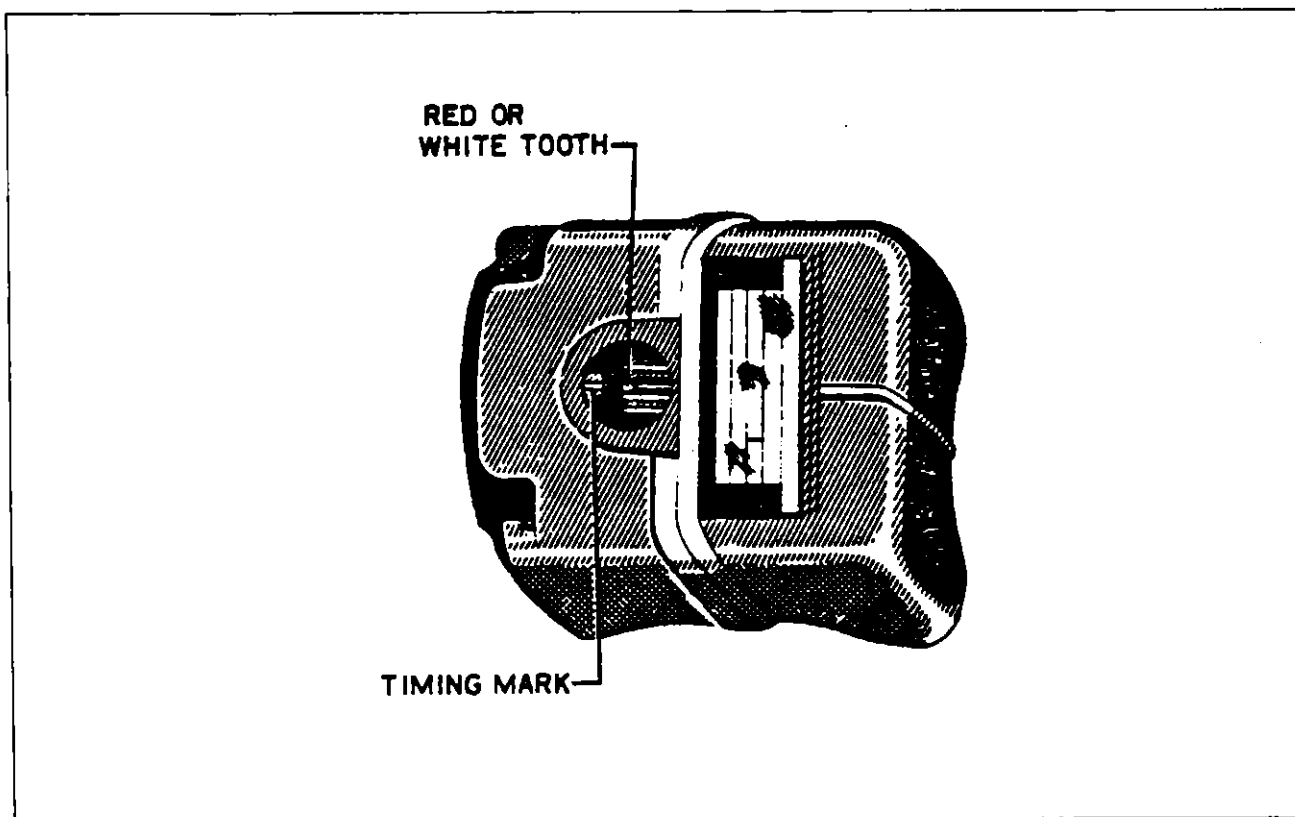

Figure 8A -1. Magneto Timing Marks
- c. Rotate coupling from neutral in the direction of rotation 10 degrees. Appearing through timing hole, when the white or red tooth aligns with the white line of the distributor block the magneto is set at "E" gap. (Refer to Figure 8A-1.)